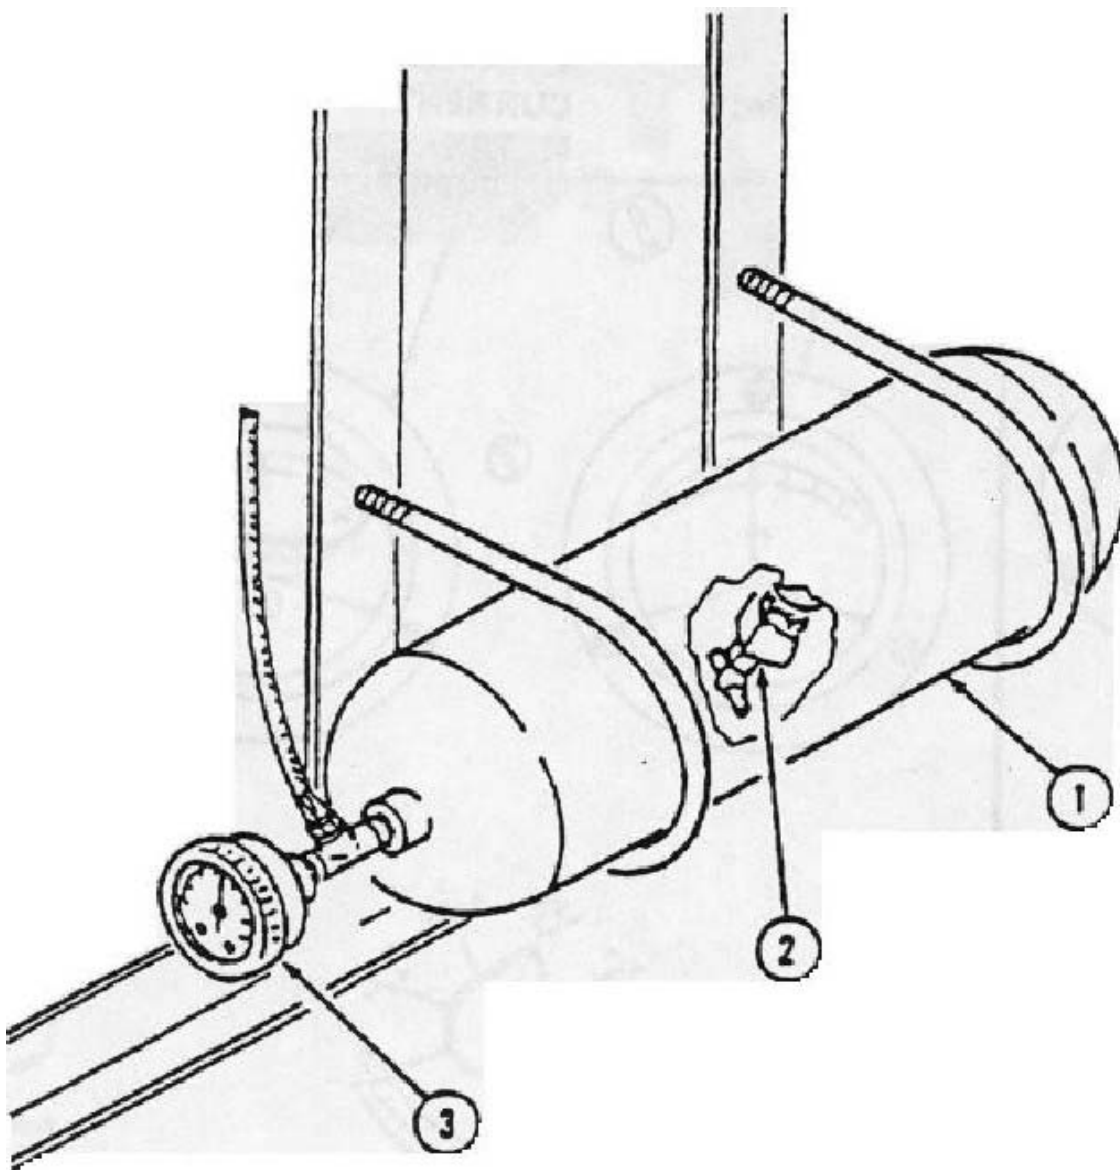

Figure 3-30
2. Prepare the air compressor for use. (See Figure 3-30)